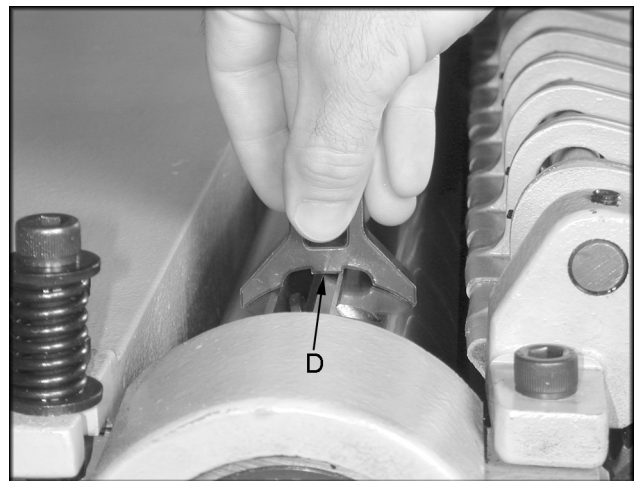

Figure 11
5. Place the knife setting gauge (D, Figure 11) on to the cutterhead as shown in Figure 11. Use the jackscrew to raise the knife so that the point just touches the raised portion of the gauge.